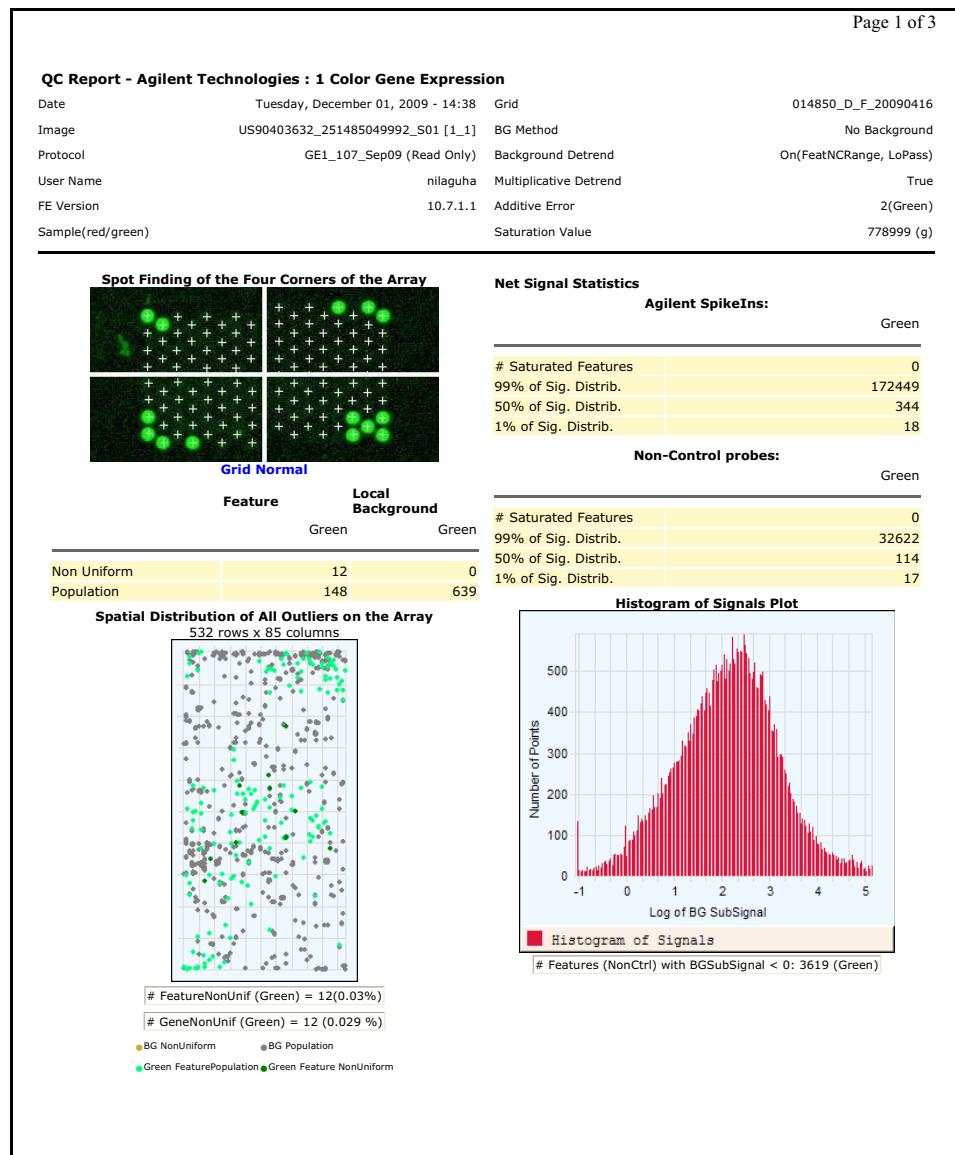

Figure 7 Example of the first page of a QC Report generated by Feature Extraction Software
- 8 After the extraction is completed successfully, view the QC report for each extraction set by double-clicking the QC Report link in the **Summary Report** tab. Determine whether the grid has been properly placed by inspecting Spot Finding at the Four Corners of the Array. See Figure 7.